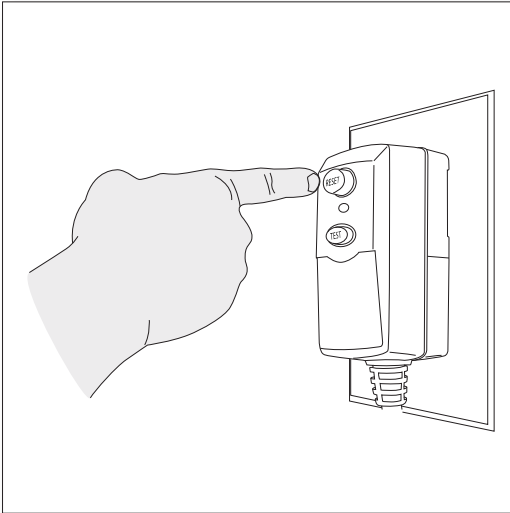

Fig.21
- Unwind the power cord completely and plug the GFCI into a grounded 120 volt outlet. Press the 'reset' button on the GFCI box (**Fig. 21**). The indicator window should show a red color. This must be done each time the unit is plugged in.